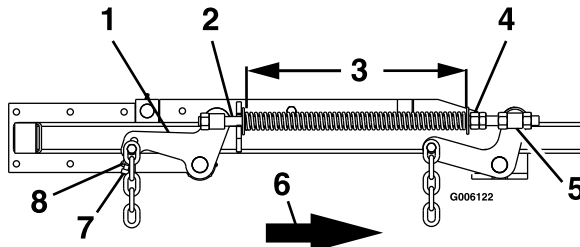

Figure 15
5. Raise the deck to the 5 inch (12.7 cm) height position (also transport position) and take all force off of the two large deck lift springs by loosening the nuts at the front of each spring (Figure 15).
6. Lower the deck to the 1 inch (2.54 cm) height position. Force the left rear deck support arm downward about 1/4 inch (6.4 mm) to get the deck to rest at the 1 inch height position. Place locking pliers between the rear swivel and spring stop to hold the deck in this position (Figure 15).
12. Raise deck lift lever to the 5 inch (12.7 cm) cutting height position (Figure 8). Adjust spring compression until proper distance is obtained between the two large washers (Figure 15). Adjustment is made by turning the nut at the front of each spring (clockwise will shorten the spring, counterclockwise will lengthen the spring). Lock in position with jam nuts.